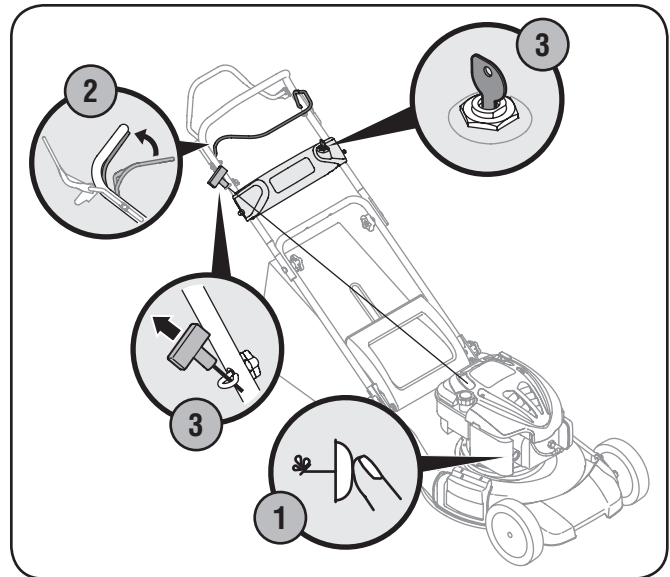

Figure 5-1
1. Push primer (if equipped) three times. Wait about two seconds between each push. See Fig. 5-1. In temperature around 55°F or below, prime five times. Do not prime to restart a warm engine.
2. Standing behind the mower, squeeze the blade control against upper handle. See Fig. 5-1.